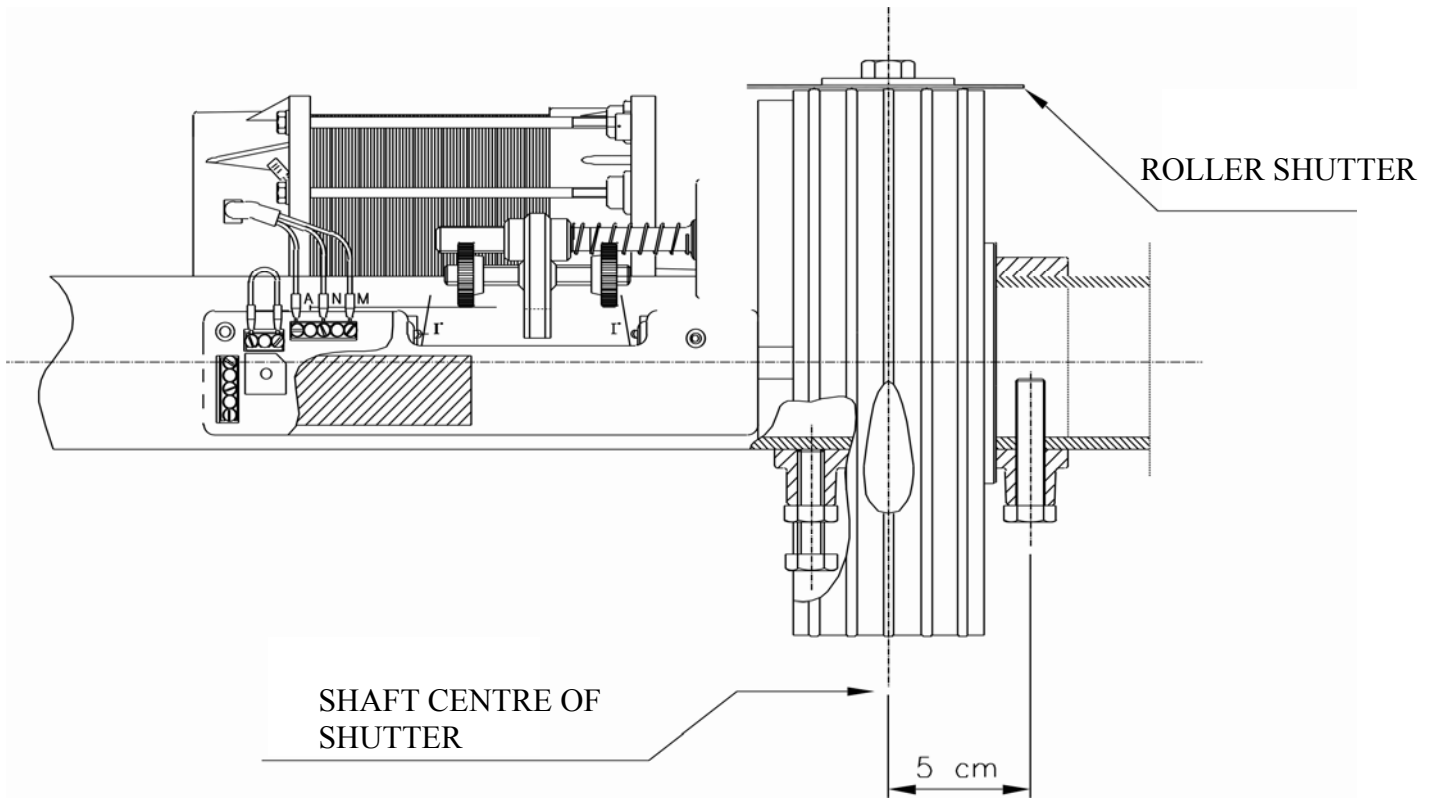

FIG. 1
- 13) Tighten by hand the gear by 1-1½ turns by bringing the grip towards microswitch 1 (down) fig. 1 (it must turn easily);
- 19) Should the shutter need to be installed contrary to the description in **FIG. 1**, the steps described above should be carried out to the contrary as microswitch 2 will stop the descent and microswitch 1 will stop the opening.